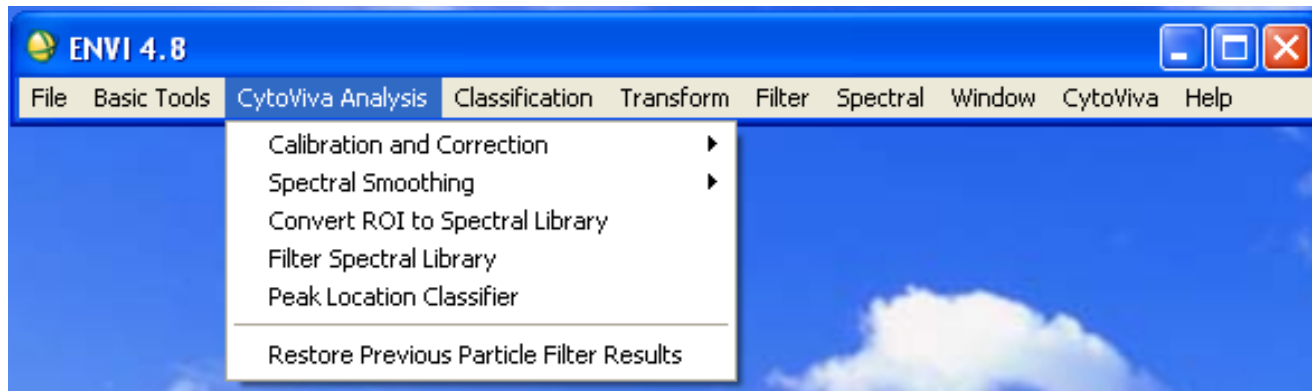

Figure 1. Cytoviva Analysis Tab in ENVI 4.8
1. When analytical features are installed, the ENVI 4.8 tool bar shows a tab labeled "CytoViva Analysis" (see Figure 1).